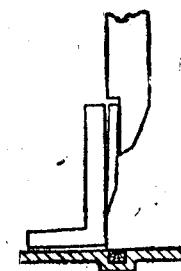

FIG. 1
(1) Undercut may be caused through the knife standing obliquely in the knife-carrier (FIG. 1). An overhaul of the knife may be needed to remedy this fault.